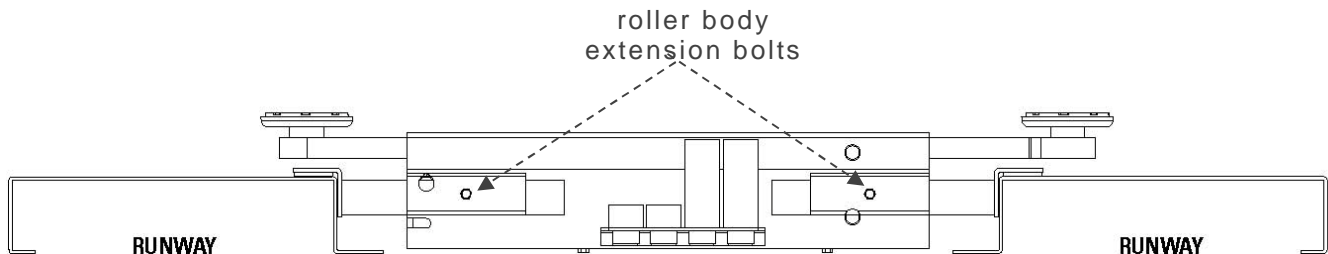

Fig. 3
5. Put the jack on the edges of the runways (Fig. 3), while ensuring to center the jack between the runways.
6. Remember to secure the roller body assembly extensions into position by tightening the bolts after the jack is centered (Fig. 3).